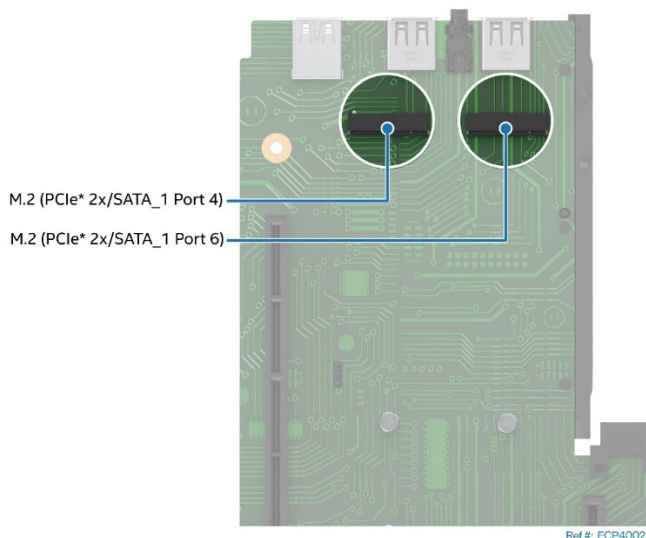

Figure 48. M.2 SSD Connector Location
4. Locate the M.2 connectors towards the back edge of the server board. See Figure 48.